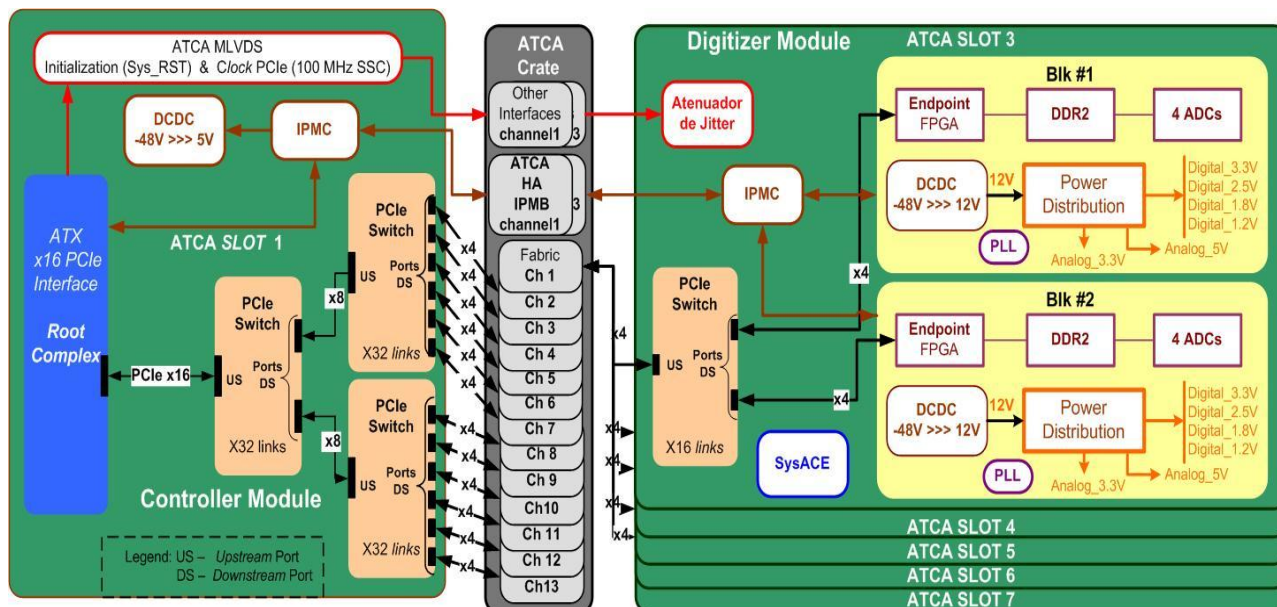
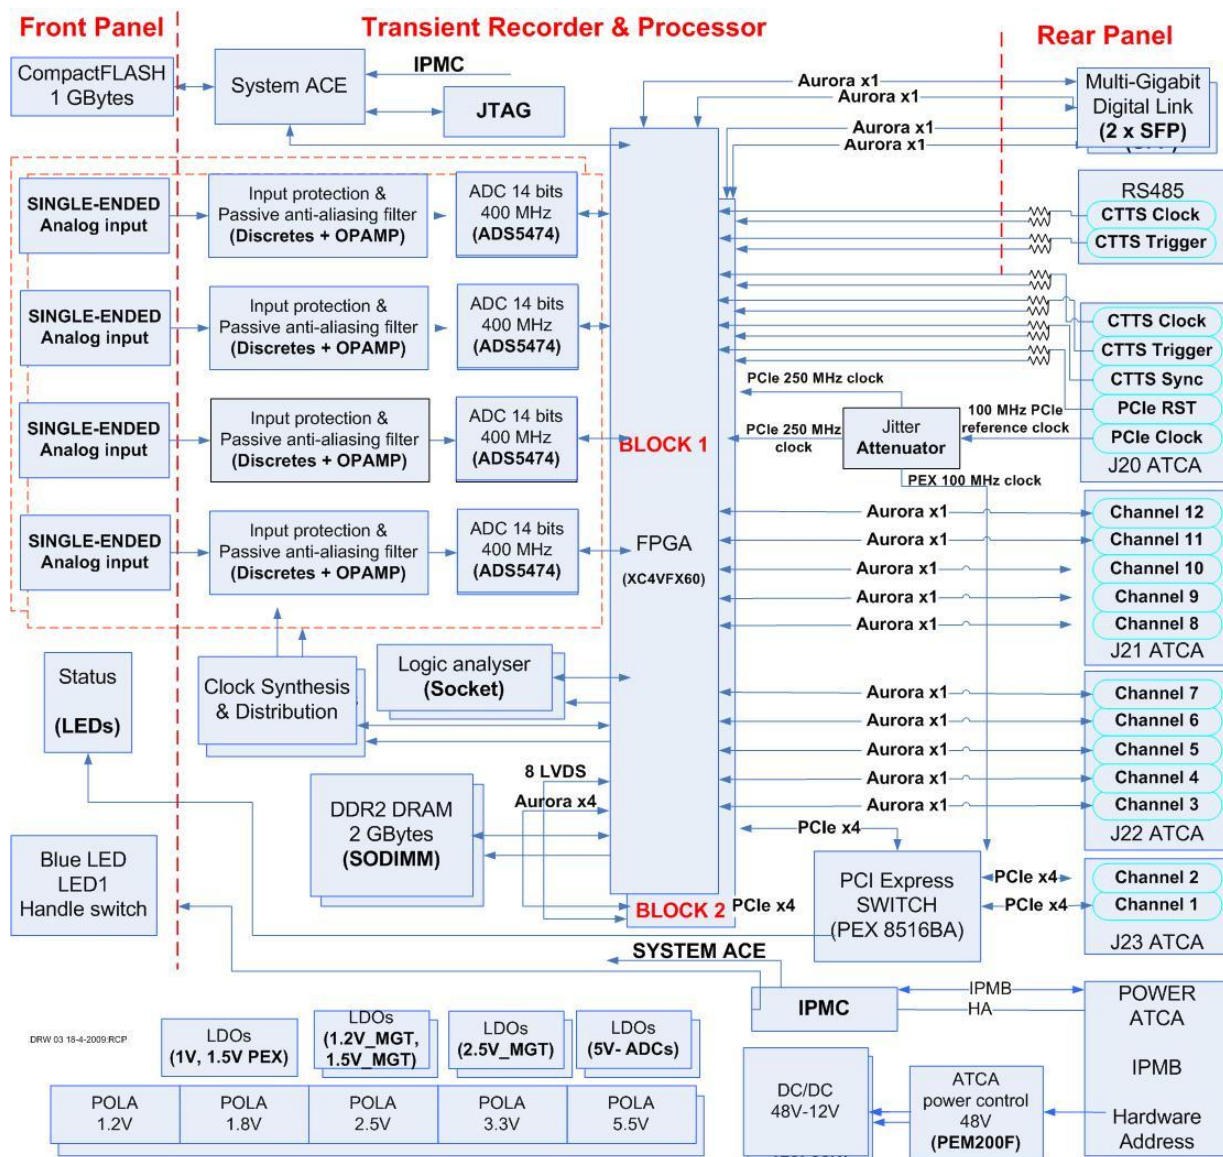
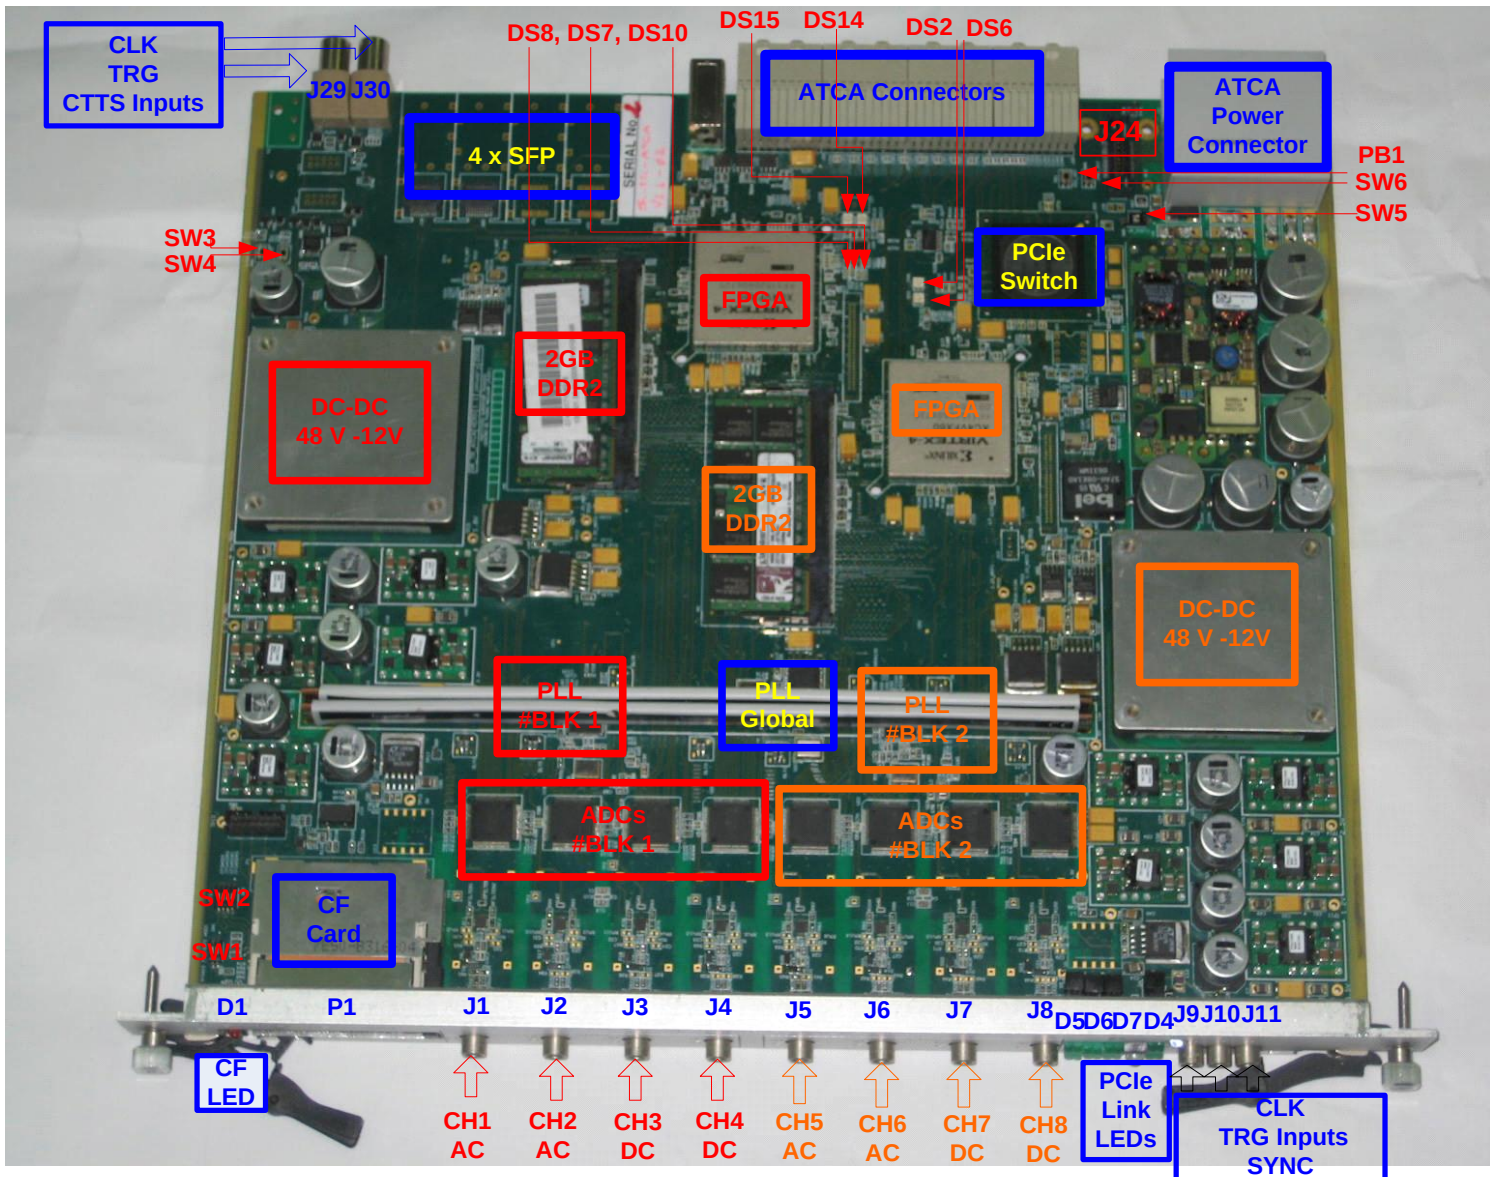
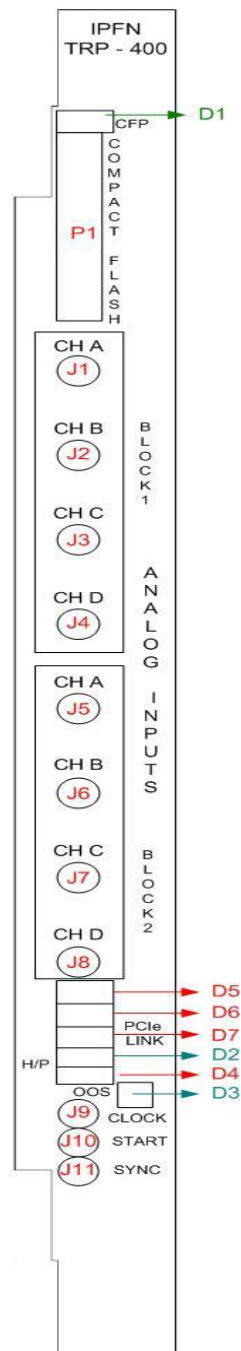

Figure 3-1:Block diagram of an ATCA System up to 5 digitizer modules.
Figure 3-2: Module block diagram.
Figure 3-3: Digitizer module Layout (TOP view).
Figure 3-13: Front Panel.
The digitizer module is divided into 2 blocks (block #1, block #2) of 4 channels each. The module represents two PCIe endpoints, section 3.4. Each endpoint represents one block of the module. Where endpoint 1 is in charge of channel 1, 2, 3, 4 of the module and endpoint 2 is in charge of channel 5, 6, 7 and 8 of the module, section 3.1, Figure 3-1 and Figure 3-3.
This digitizer module has a form factor large enough to accommodate eight acquisition channels per module. The module has eight analog input channels divided in two symmetric blocks, Figure 3-1.
The memory will be implemented with double data rate (DDR2) synchronous dynamic random access memory (SDRAM) providing up to 4 GB per module. Figure 3-2 represents a simplified block diagram of architecture of the digitizer module and Figure 3-3 the general view of the module.
The Xilinx System ACE (SYSACE) CompactFlash (CF) configuration controller allows a Type I CF card inserted on the CF socket, P1, present on the front panel, Figure 3-3 and Figure 3-13, to program the FPGA through the JTAG port. The System ACE controller supports up to eight configuration images on a single CF card. The configuration address switch allows the user to choose which of the eight configuration images to use, see section 3.8.2.
All the front panel connectors are presented at Table 3-5, Figure 3-13.
Front panel LED indicators are presented at Table 3-7 and can be seen at Figure 3-13. These LEDs are divided into 3 different information groups: i) CF being inserted and the 2 FPGAs being properly programmed; ii) Indicates how the 3 PCIe links and respective lanes are working properly; and iii) ATCA mandatory LEDs that informs if the module is properly inserted and detected and provide basic feedback about failures and out-of-service states.
Looking at the front panel the LED order is from the left to the right (or from up to down if the module is in vertical position): D5, D6, D7, D4, Figure 3-13.